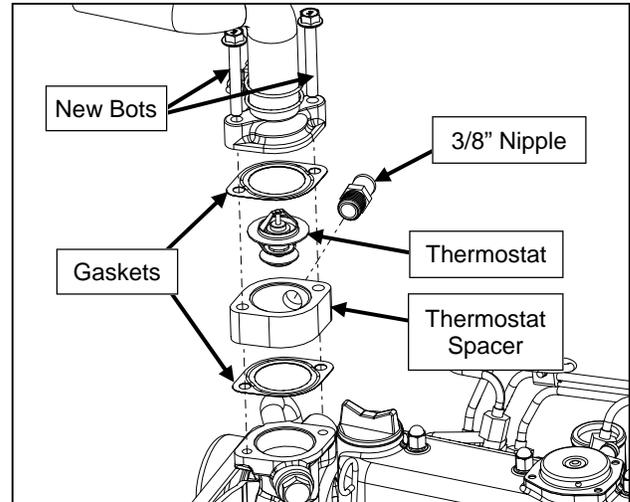

Figure 17.7 (Install Thermostat Spacer)
17.7 Pre-install the 3/8" NPT Nipple into the thermostat spacer using Teflon tape. Install the thermostat spacer onto the engine using a new gasket provided, followed by the thermostat, another new gasket, and the thermostat housing with new longer bolts. Ensure that the nipple is pointing towards the front left of the vehicle. See Figure 17.7.